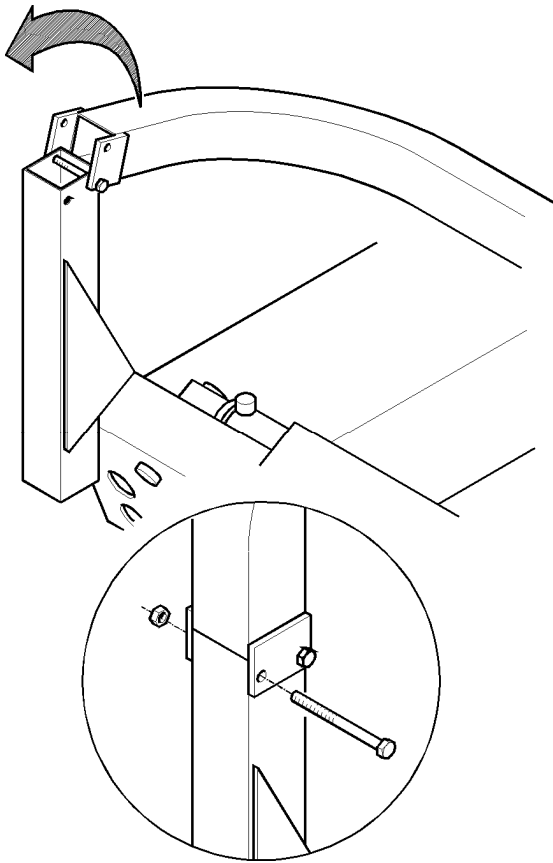

Fig.11
- A.** Move the control arm to a vertical position. Install the lock bolt and tighten the nut properly. Make sure that the electric cable and hydraulic hoses are not caught nor damaged. (Fig.11).
- B.** Install the accessories peg and lock with screw (Fig.11).